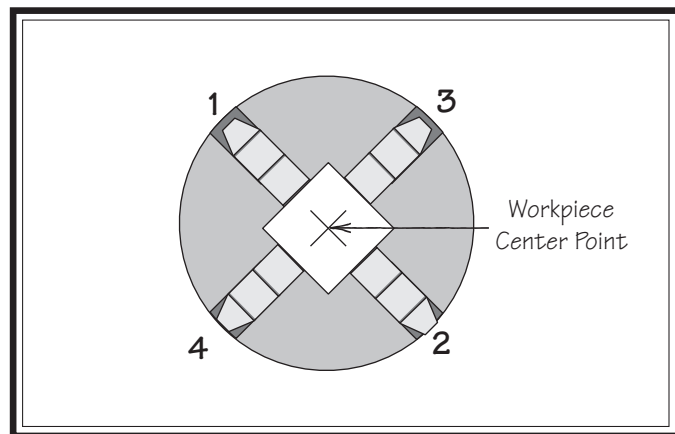

Figure 53. 4-jaw tightening sequence.
5. Tighten each jaw in small increments. After you have adjusted the first jaw, continue tightening in an opposing sequence, as shown in **Figure 53**.